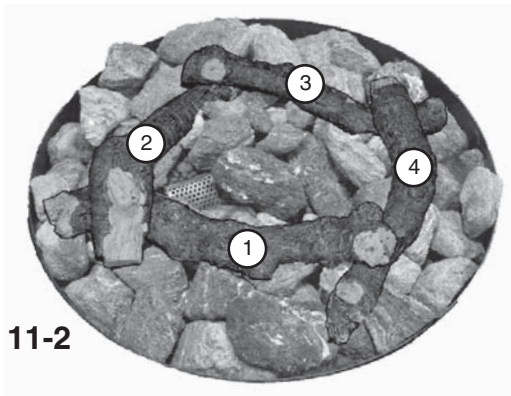

Fig. 11-2
2. Lay an end of Log #3 over the unattached end of Log #2 at a 90-degree angle (see Fig. 11-2).
3. Place one end of Log #4 over the open end of Log #3 and the other end underneath the open end of Log #1, creating a kind of square (see Fig. 11-2).